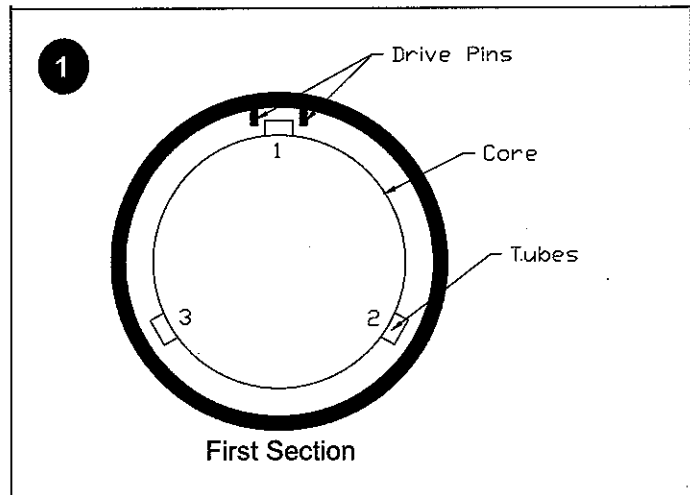

figure 8
- a. Number the tubes on the core as 1, 2 and 3 (figure 8).
- b. Slide the first section onto the core with the drive pins on either side of tube 1. Make sure that the drive pins angle up (figure 8).